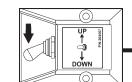

FIG. 15-1B
1. Standing to the side of platform (FIG. 15-1), push down control handle if equipped (FIG. 15-1A), and push the toggle switch to **DOWN** position as shown in FIG. 15-1B. Release control handle after platform is lowered about 2 inches.